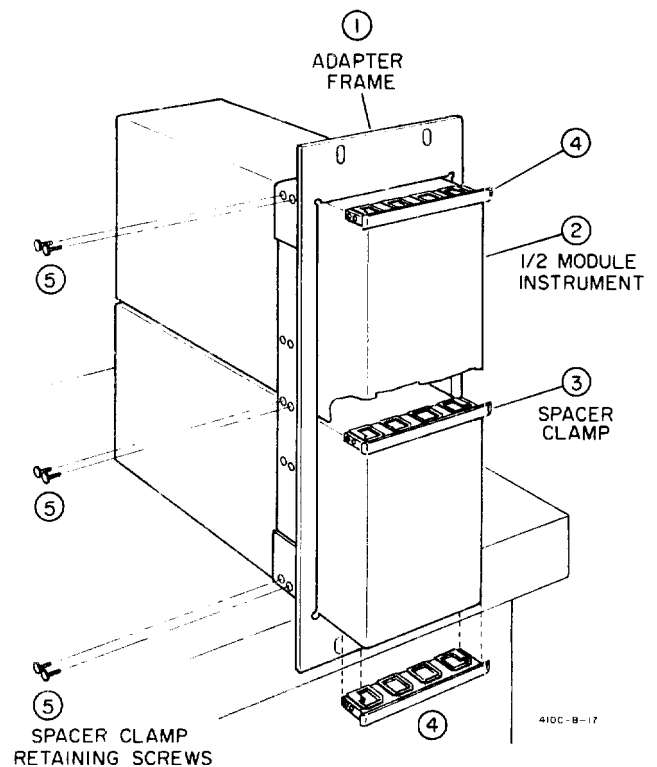

Figure 2-4. Two Half Modules in Rack Adapter
- a. Place the adapter frame on edge of bench as shown in step 1, Figure 2-4.
- b. Stack the submodular units in the frame as shown in step 2, Figure 2-4. Place the spacer clamps between instruments as shown in step 3, Figure 2-4.
- c. Place spacer clamps on the two end instruments (see step 4, Figure 2-4) and push the combination into the frame.